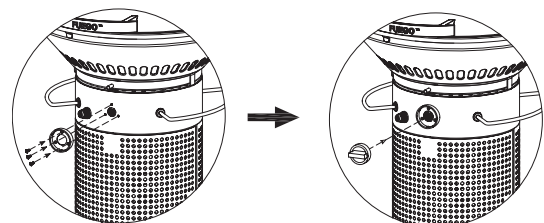

FIG 07.
- H. Re-install the control knob bezel, valve and knob using the same Phillips head screws. FIG 07.